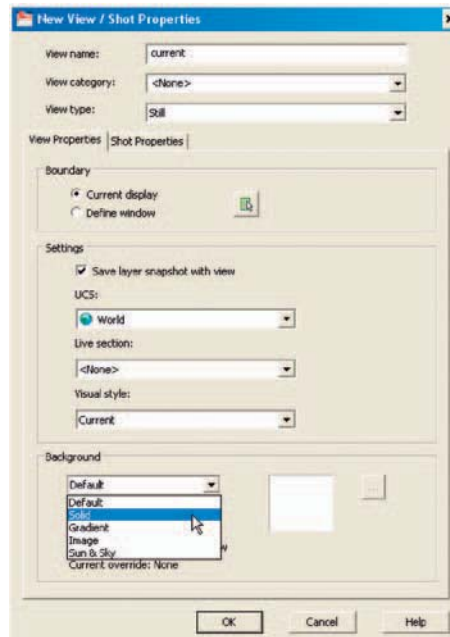
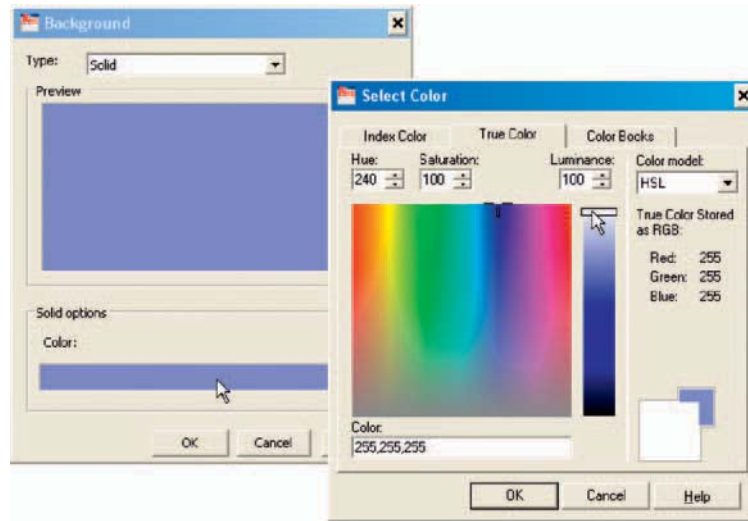

Fig. 15.21 The **New View/Shot Properties** dialog
Fig. 15.22 The **Background** and **Select Color** dialogs
2. The **New View/Shot Properties** dialog (Fig. 15.21) appears. *Enter current* (or similar) in the **View name** field. In the **Background** pop-up list *click Solid*. The **Background** dialog appears (Fig. 15.22).
3. In the **Background** dialog *click* in the **Color** field. The **Select Color** dialog appears (Fig. 15.22).